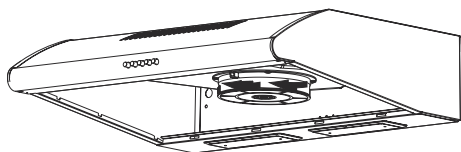

Fig. 9: CARBON FILTER
- 1-Place the carbon filter in its housing (Fig. 9).
- 2-Rotating the carbon filter clockwise, ensure that it is completely fit (Fig. 9).